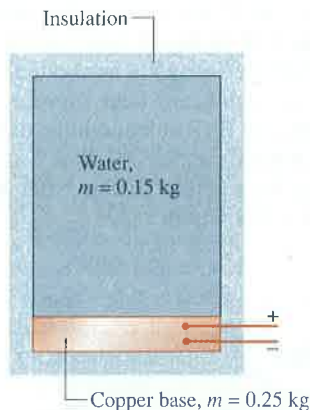

Fig. P3.91
3.91 As shown in Fig. P3.91, a closed, insulated tank contains 0.15 kg of liquid water and has a 0.25-kg copper base. The